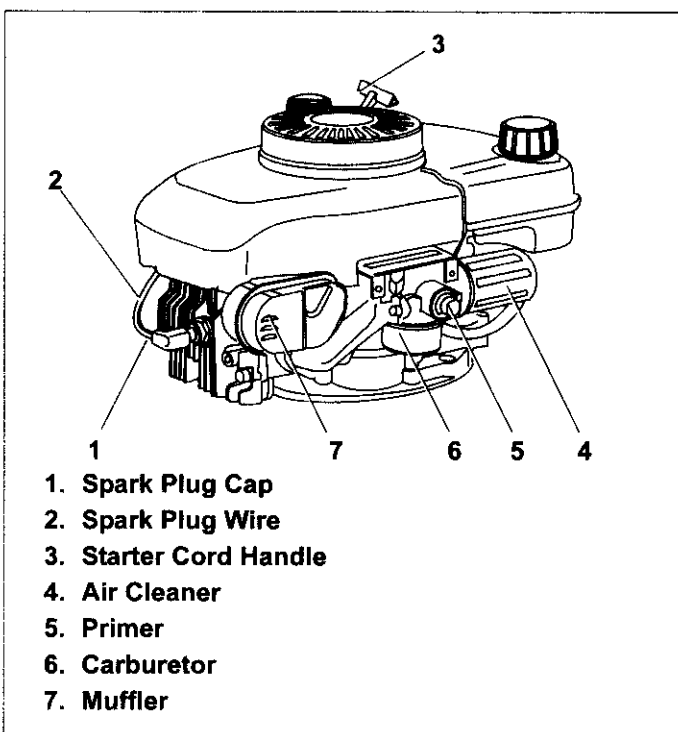

Figure 14. Engine Components
3. When starting a cold engine, push primer bulb firmly with your thumb 3 times, allowing primer bulb to return completely to original position between pushes. See Figure 14.